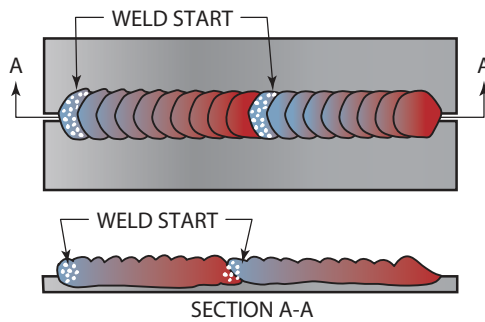

FIGURE 30-2 Clustered porosity.
- Clustered porosity is most often caused by improper starting and stopping techniques, Figure 30-2.